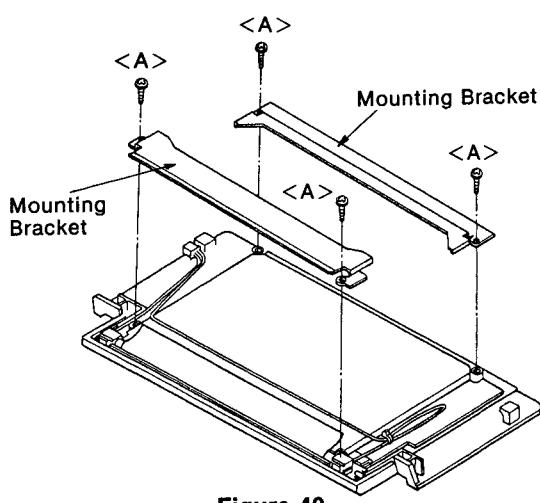

Figure 40
(10) Install the LCD mounting brackets to the LCD front panel with four screws <A> (2.6φ×6mm) shown in Figure 40.